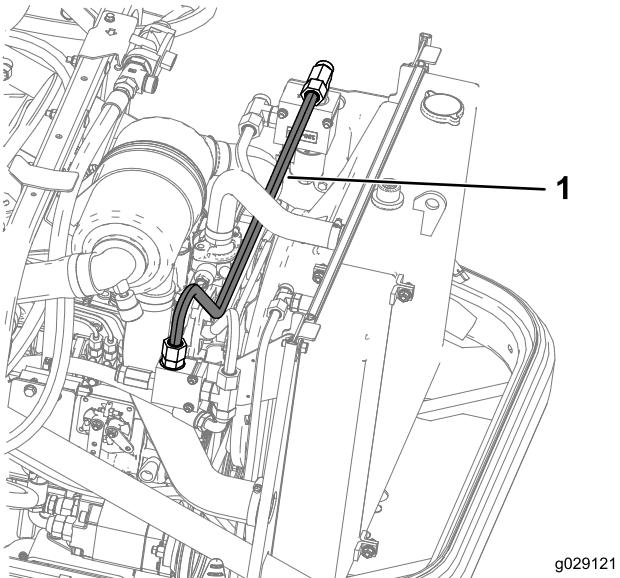

Figure 30
10. Install the hydraulic tube I from the adapter fitting (5/8 x 5/8 inch male) on the right manifold assembly to the tee-adapter fitting (5/8 inch male) on the left manifold assembly as shown in Figure 30.